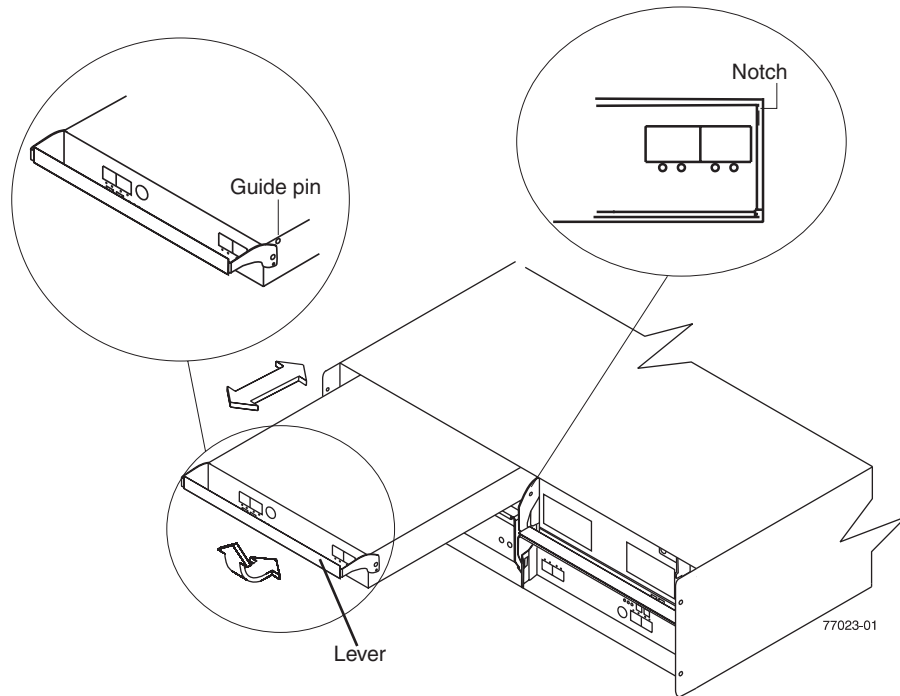

Figure 24. Removing and replacing an Environmental Service Module (ESM)
1. Slide one ESM into the empty slot in the storage expansion enclosure. Be sure that the lever is pulled straight out as you slide the ESM in, as shown in Figure 24 on page 43.